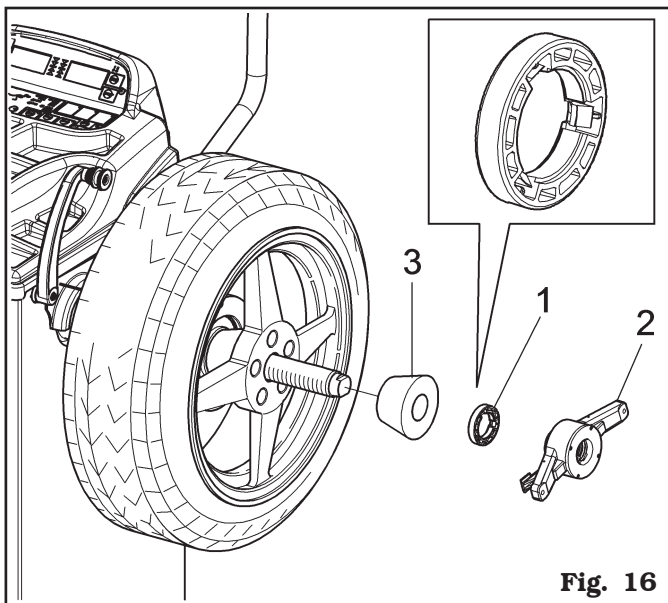

Fig. 16
7. Fit the cone (**Fig. 16 ref. 3**) with the narrowest part turned towards the wheel.
8. Fit the pressure ring (**Fig. 16 ref. 1**) in the ring nut (**Fig. 16 ref. 2**) and fasten everything against the cone (**Fig. 16 ref. 3**).
THE PRESSURE RING (FIG. 16 REF. 1) MUST BE MOUNTED WITH THE TEETH SIDE TOWARDS THE RING NUT (FIG. 16 REF. 2).